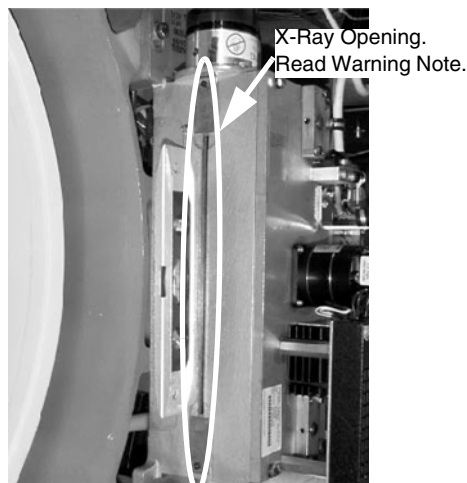

Figure 1-22 X-Ray Opening
- 3.) Do not place any object near or into the x-ray opening. This slot must not be nicked or marred (refer to Figure 1-22).